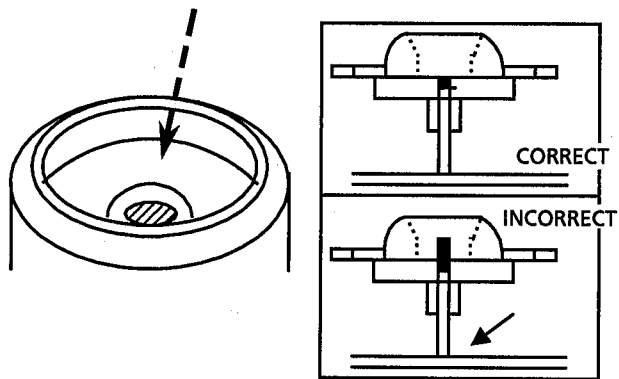

Fig. 53
- (34) After inserting the turntable, bond the motor shaft and turntable together (at the section marked by an arrow in fig 53 on the left below).**
Be extremely careful not to allow bonding agent to adhere to the motor bearing (the section marked by an arrow in fig. 53 on the right).